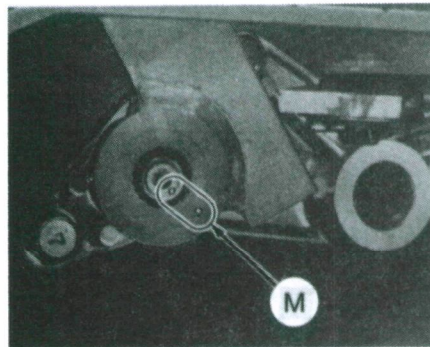

Fig. K4—Match marks (M) on pitman arm and sector gear shaft must be aligned.
To reassemble, reverse removal procedure. Apply multipurpose grease to sector shaft bushings (10 and 12), steering shaft bushing (4) and steering gear teeth. Be sure to align match marks (M—Fig. K4) on pitman arm and sector gear shaft. Tighten pitman arm nut to 78-90 N·m (57-66 ft.-lbs.). Tighten drag link nut to 39-45 N·m (30-33 ft.-lbs.).